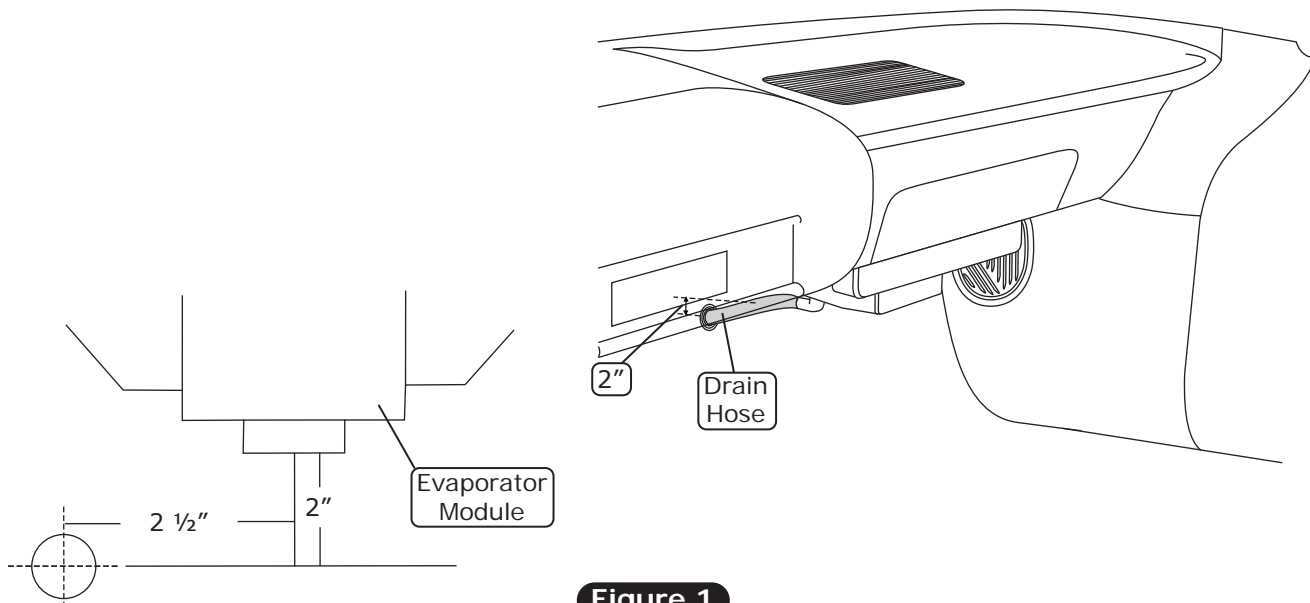

Figure 1
2. In line with the drain, lightly make a mark on the firewall. Measure 2" down and 2 1/2" to the left, then drill a 5/8" hole through the firewall (See Figure 1, below).
3. Install the drain hose onto the outlet on the bottom of the evaporator module, then route it through the firewall (See Figure 1, below).